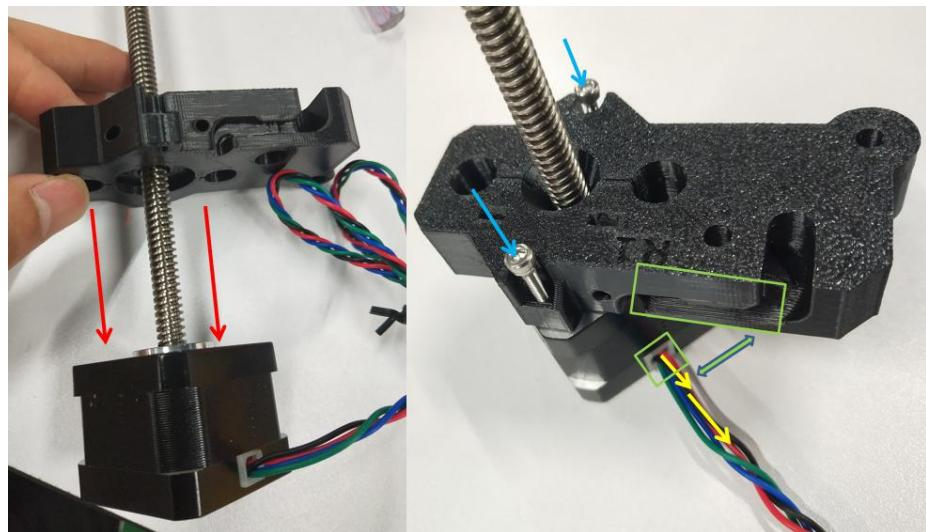

Figure 3.1.4
**Step 3-1-3:** as shown in Figure 3.1.4